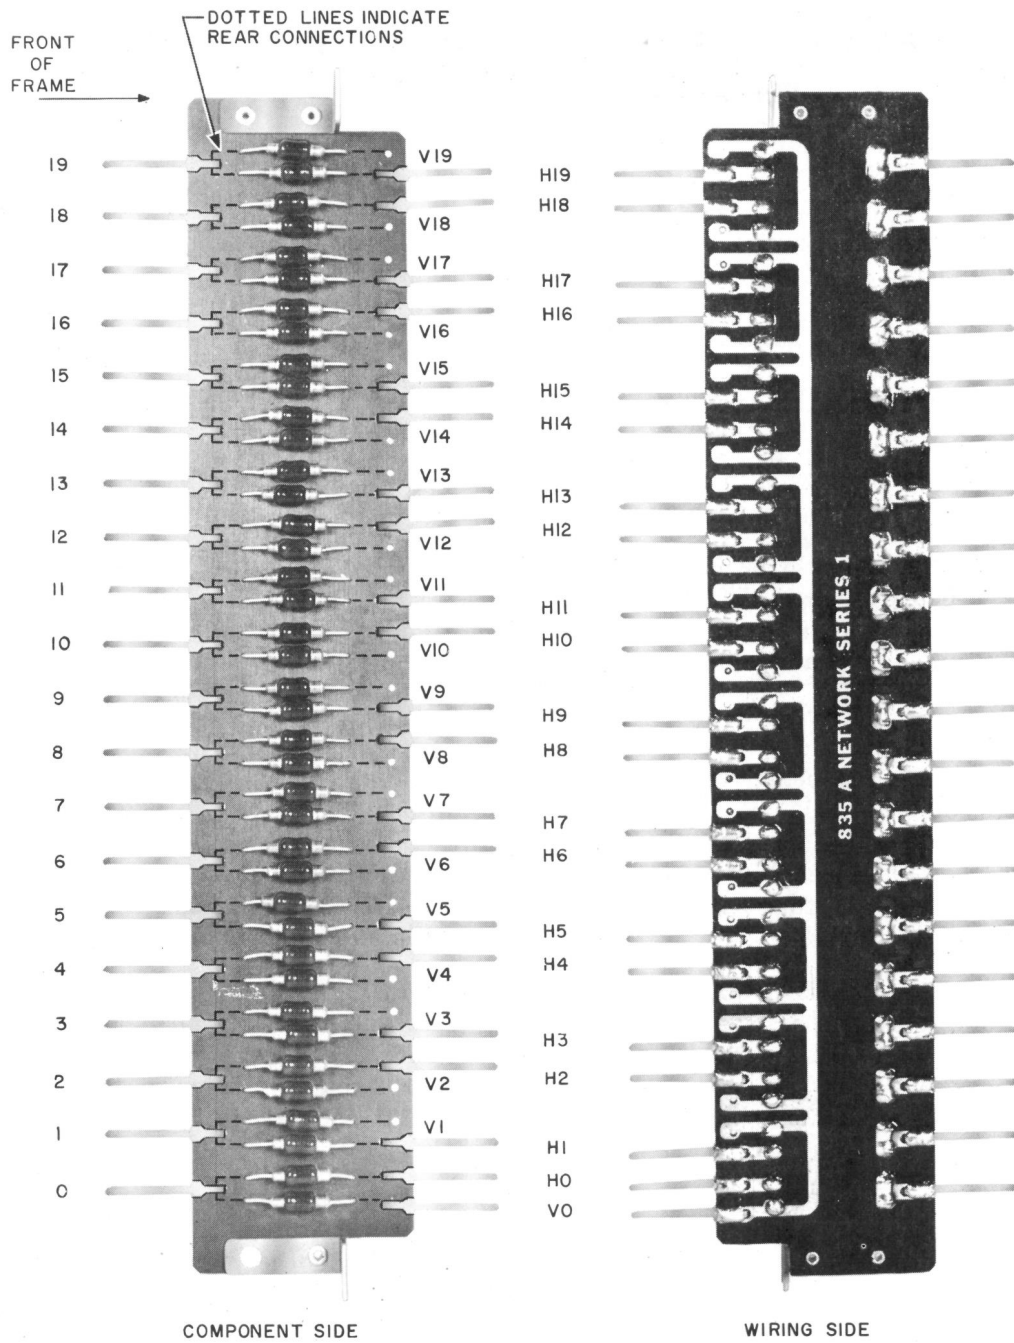

Fig. 1 - 835A Network Assembly (terminal designations are for reference only)
1.02 Replacement of defective diodes shall be made while the network is in place on the identification frame. As shown in Fig. 1, the 835A network is a printed wiring board used to mount 20 pairs (H and V) of 420B type diodes.
3.01 V1 Through V19 Diodes: For the initial replacement of a defective V diode, mounted as shown in Fig. 1, proceed as follows.
3.02 VO and HO Through H19 Diodes: For the initial replacement of a defective VO or H diode, mounted as shown in Fig. 1, proceed as follows.